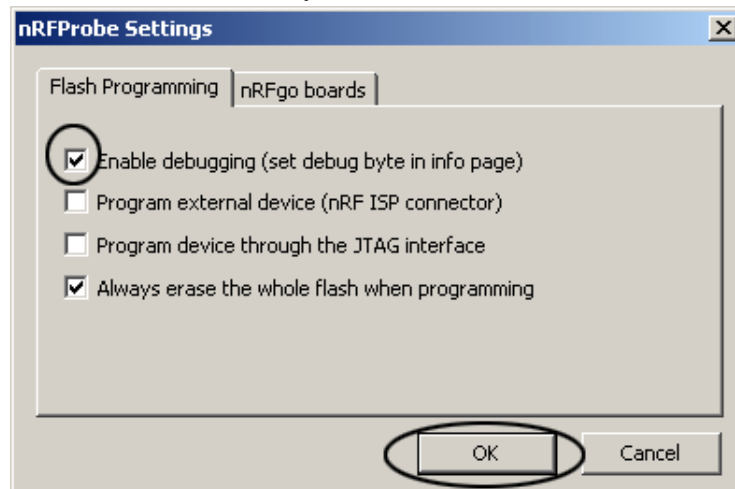

Figure 16. Settings for the nRFprobe driver (optional)
Note: If you want to run the application stand alone, then you need to uncheck “Enable debugging” (see example of this box checked in Figure 16. on page 15) in the “nRFProbe Settings” dialog before programming the device.
11. If you want to run the application without the debugger you need to deselect "Enable Debugger" (see Figure 16. on page 15).